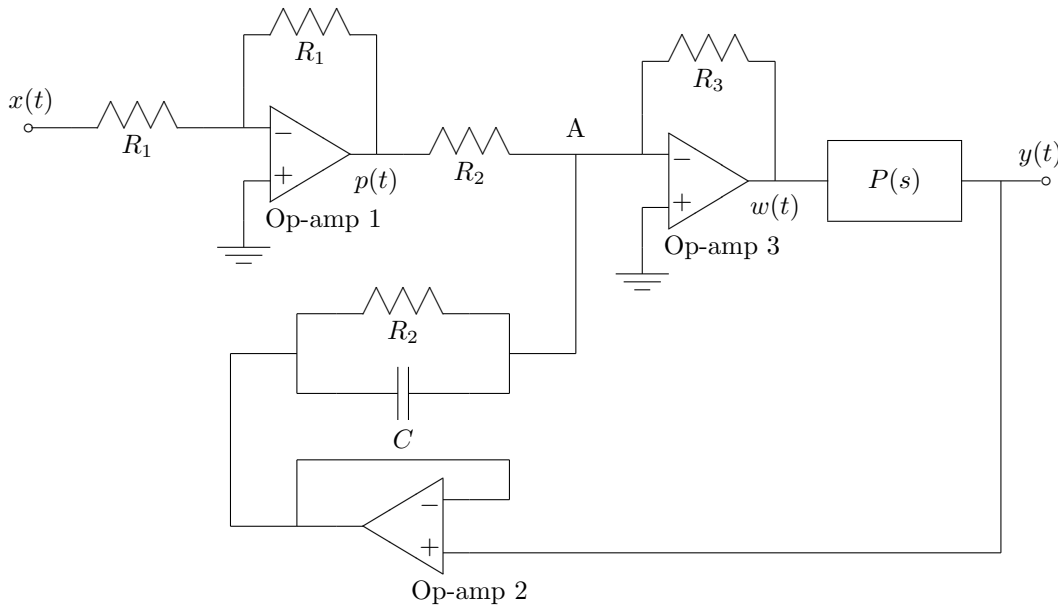
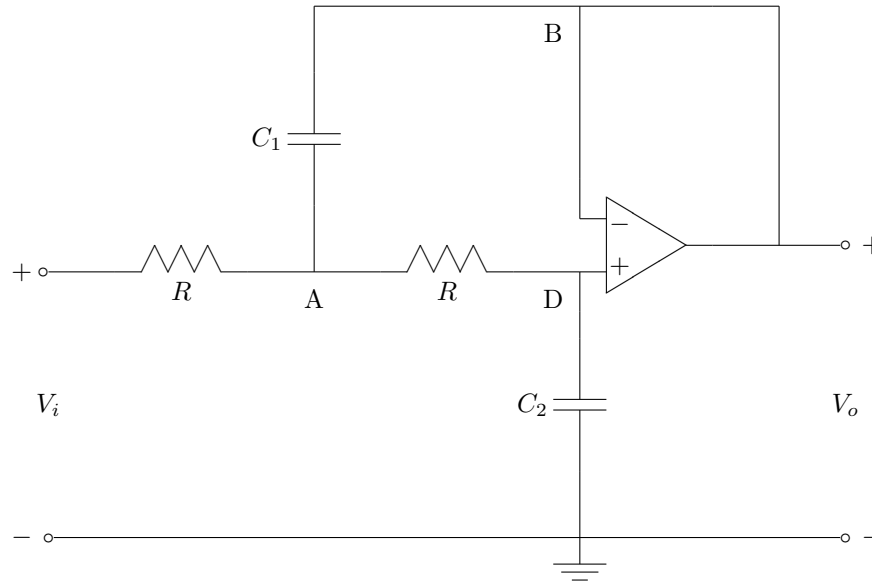
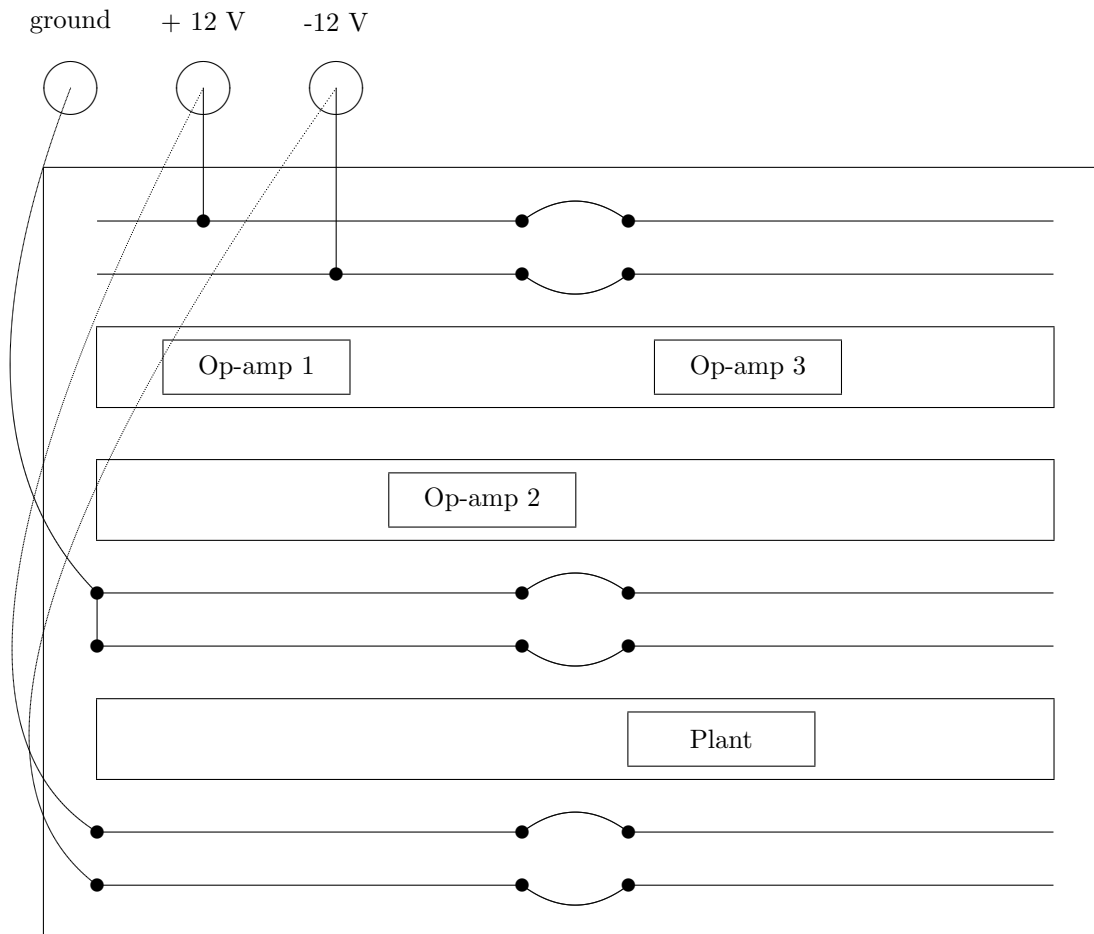

Figure 1.1.1: Op-Amp Realization of PD Controller With 2-Degrees of Freedom
Figure 1.1.2: Op-Amp Circuit for Plant
Figure 1.1.3: Protoboard Layout
The following three figures illustrate the circuits and their protoboard layout for the present lab. Figure 1.1.1 shows the op-amp circuit realization of the PD controller, where the plant, $P(s)$ appears as a separate component in the circuit. Further details about $P(s)$ are given in Figure 1.1.2, which provides the appropriate op-amp circuit. Finally, Figure 1.1.3 provides a schematic for the overall layout of the protoboard.
- (a) Examine the 2 degree-of-freedom PD controller shown in Fig. 1.1.1. Based on the circuit, fill in the values for R_1 , R_2 , R_3 , and C below:
- (b) Re-connect the controller as indicated in Fig. 1.1.1 to the plant.